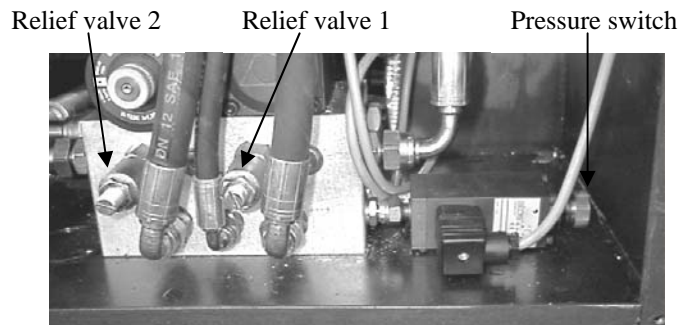

FIG 2
Release the lock-nuts on both relief valves in readiness (Fig 2)
Start engine and press “forward” button (only) and turn 3000Kg speed control to maximum. Observe pressure gauge on console and adjust relief valve 1 (PL803 item 3) Fig 2 until gauge reads approx. 3000 Kgs. (2850 Kgs if BT Spec.) Tighten the lock-nut and stop the winch.
Turn the knurled adjuster on the pressure switch (PL803, item7) Fig 2, located inside the console to the right of the manifold (viewed from operator side), until the indicator on the switch body points to approximately 100 bar (in order to set relief valve 2).